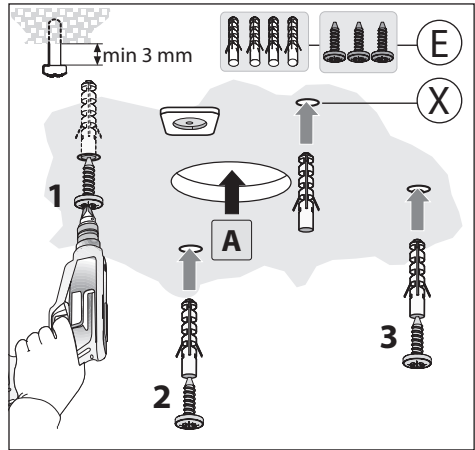

Fig.8
- Drill 4 Ø8 holes in the ceiling and tighten the 3 screws without pulling them completely making sure not to insert the screw in the hole marked with an **X** on the perforation template fig.8 (the screws and expansion plugs must be suited for the type of wall).